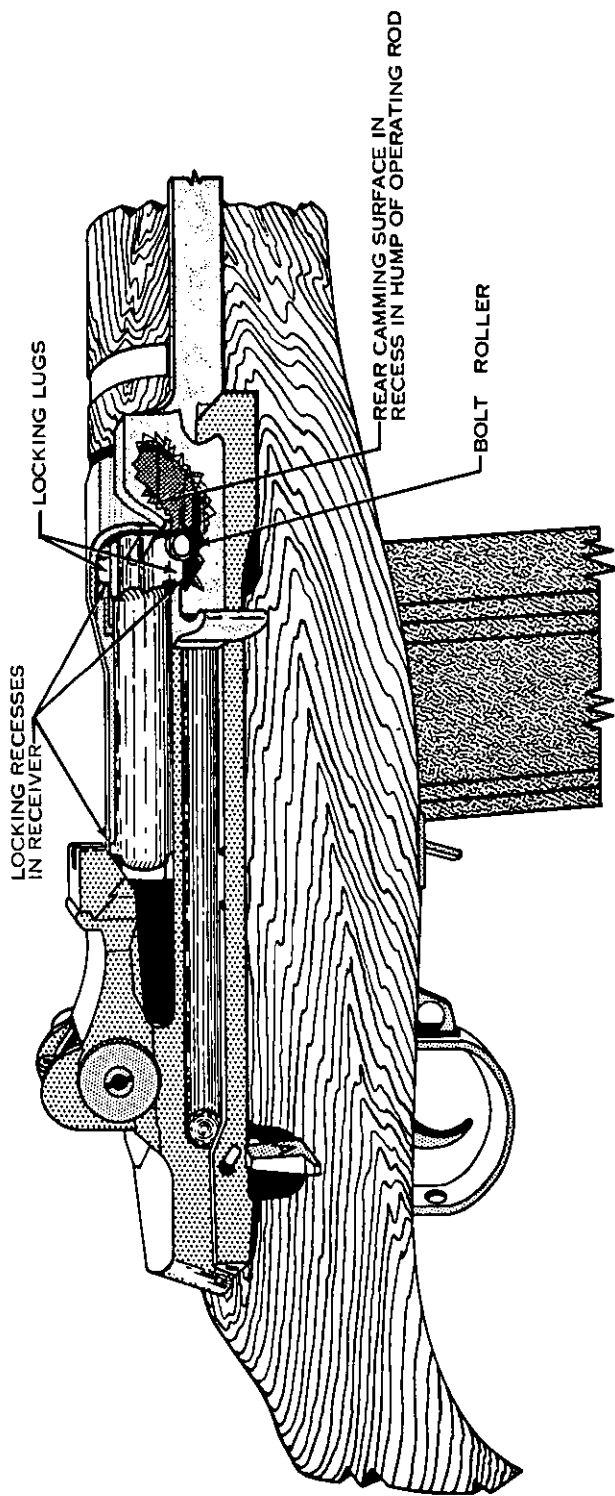

Figure 39. Locking.
- (3) *Locking.* Locking occurs when the bolt is fully closed. This prevents the loss of gas pressure until the bullet has left the muzzle. The bolt is locked by the rear camming surface in the hump of the operating rod forcing the bolt roller down. This engages the locking lugs on the bolt with the locking recesses in the receiver (fig. 39).